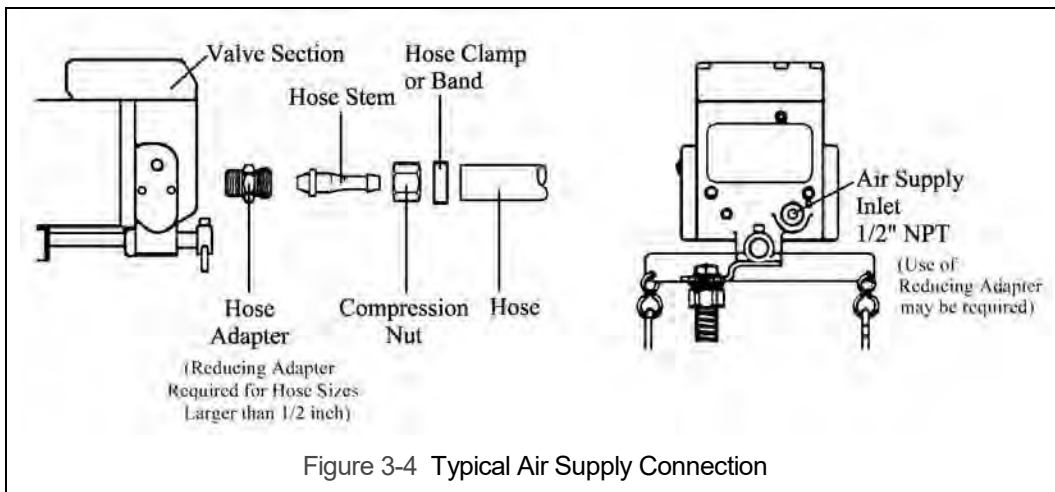

Figure 3-4 Typical Air Supply Connection
- 3.8.5 Make connections to air supply; reference Figure 3-4. Use a reducing adapter at the hoist valve section for hose sizes larger than 1/2 inch.